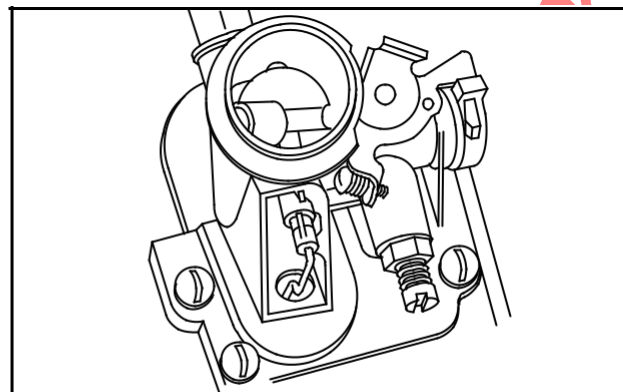

Fig. 166 - PRE-LOADING DIAPHRAGM
1. Move choke plate to an over center position as shown in Fig. 166.